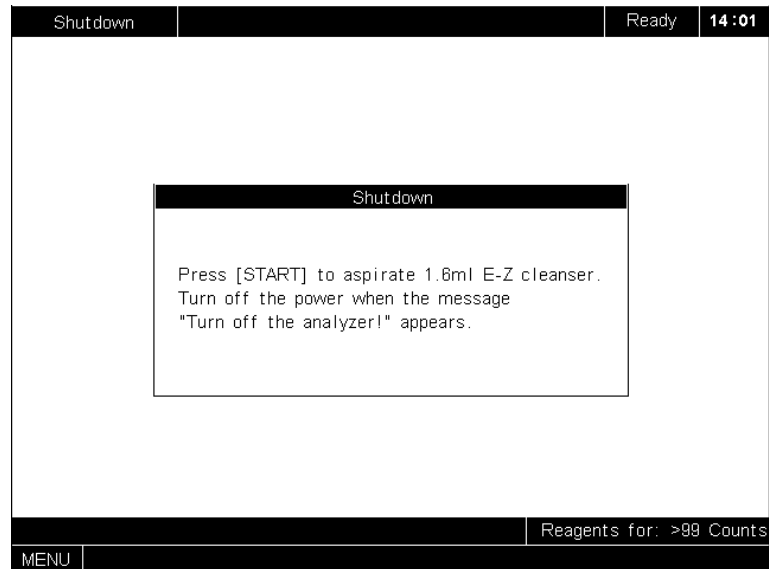

Figure 3-18 Shutdown screen
3. To Shutdown this analyzer, move the cursor to **Yes** and press [ENTER] to enter the Shutdown screen, as Figure 3-18 ; otherwise, move the cursor to **No** and press [ENTER] to exit the dialog box.